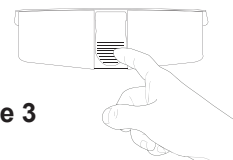

Figure 3
2. Press Dust Bin Release Lock (Figure 3) to open Bin for easy disposal. Replace by firmly pressing Dust Bin back into place on Sweeper Steamer Head.